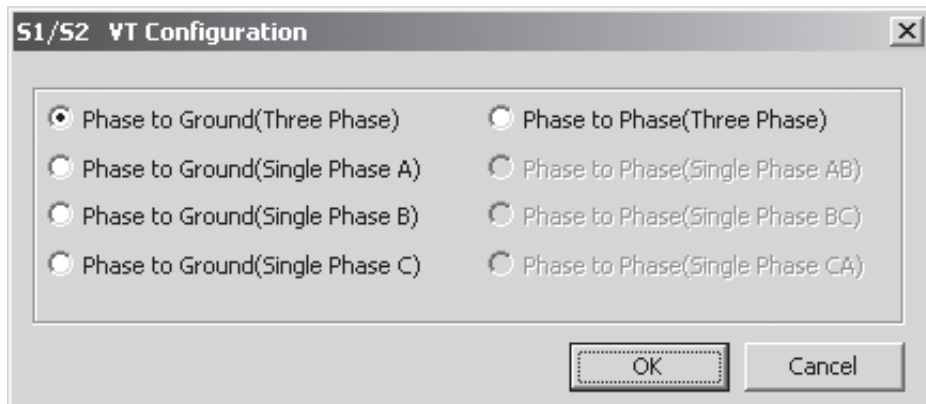

Figure 4-21 S1/S2 VT Configuration Selection Screen
5. Select the **S1/S2 VT Configuration** button. ISScom displays the S1/S2 VT Configuration selection screen (Figure 4-21).